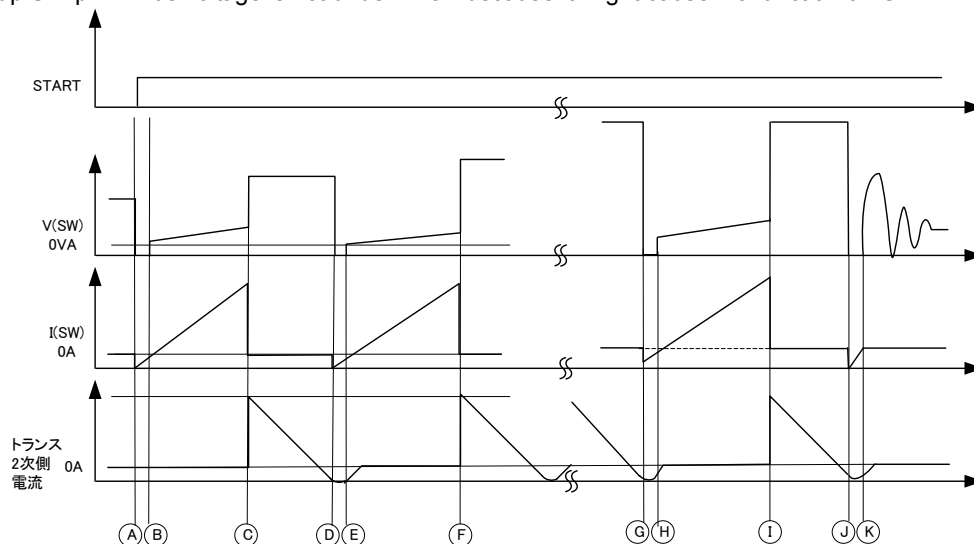

Fig 48. SW pin minus voltage
When transformer secondary side current is discharged, discharge current is not zero at FRD recovery time. SW pin minus voltage is occurred by SW pin minus current that is occurred by transformer ratio. (fig 48 (A)→(B)、(D)→(E)、(G)→(H)、(J)→(K)). Please set up SW pin minus voltage is not under -1.5V because it might cause malfunction of IC.